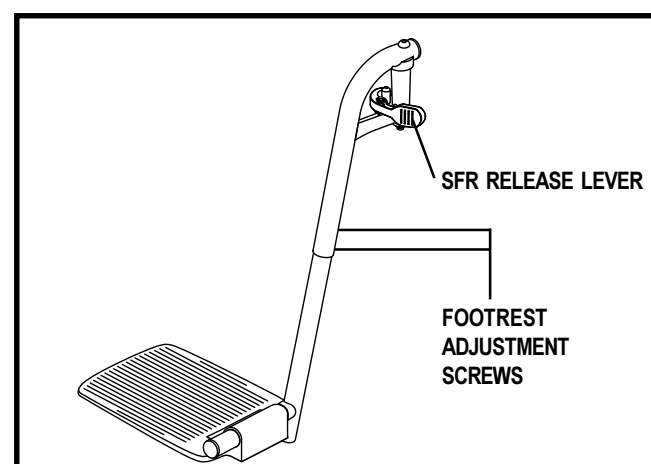

Figure 16. Swing-Away Footrests
1. Push in the release lever. See figure 16.
1. Remove the two screws from the side of each leg rest extension. See figure 16.